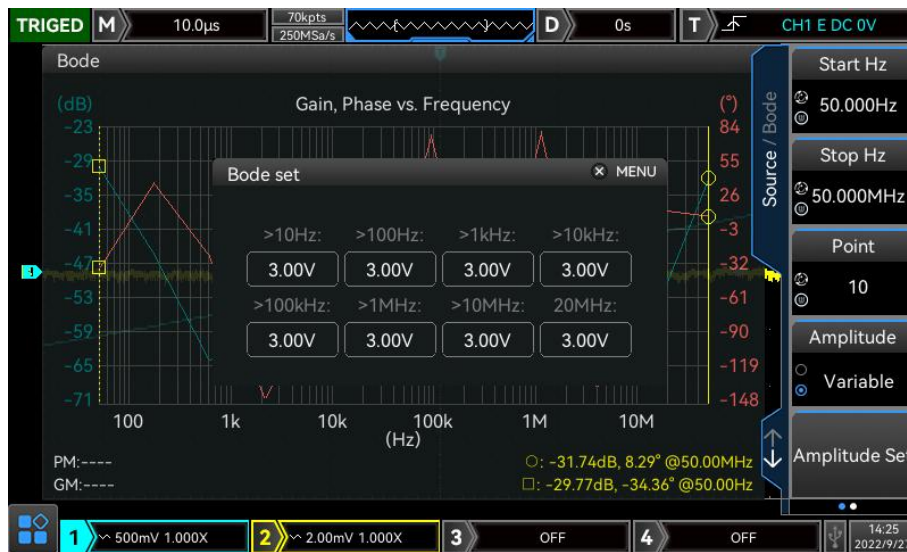

Figure 13-4
**Scan** can set scanning parameter, which is start frequency, stop frequency, scanning point, amplitude mode, amplitude setting, DC displacement and source impedance, as shown in Figure 13-4.